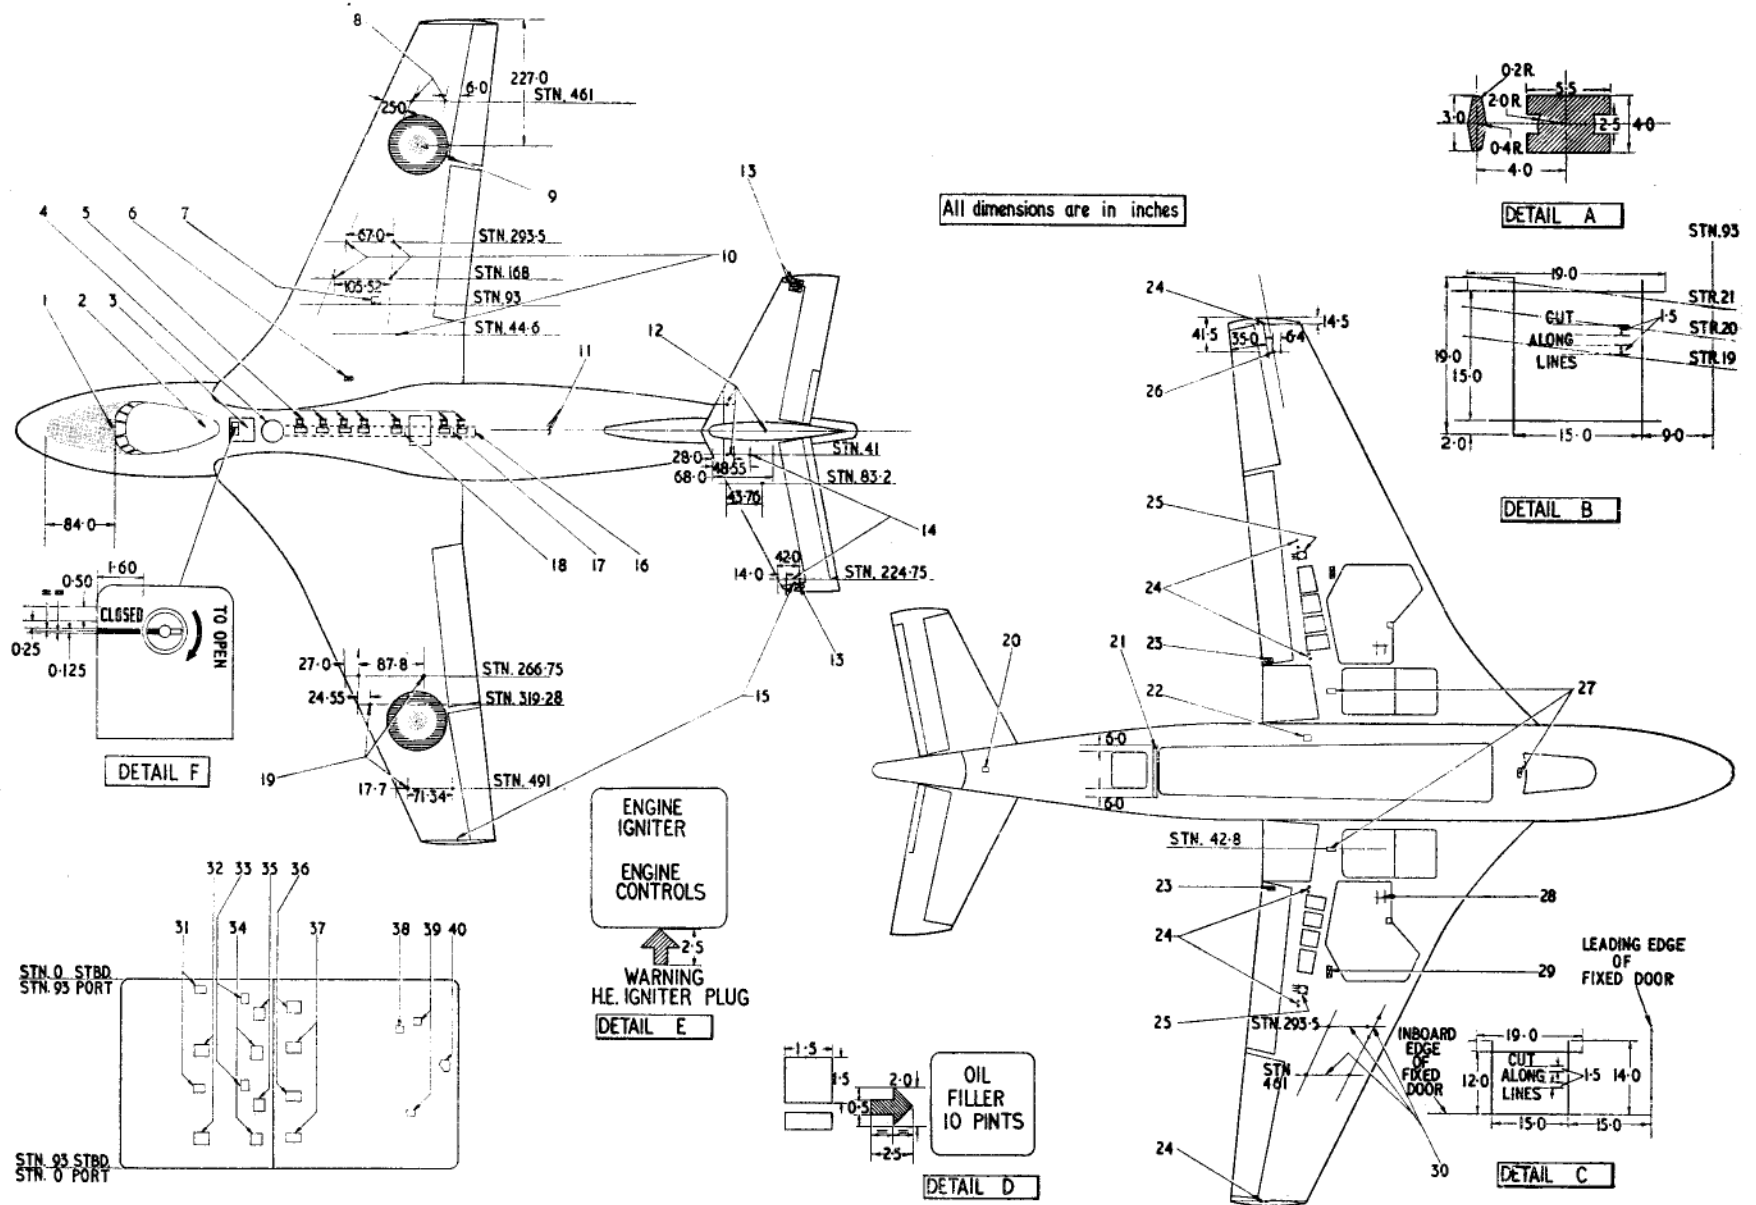
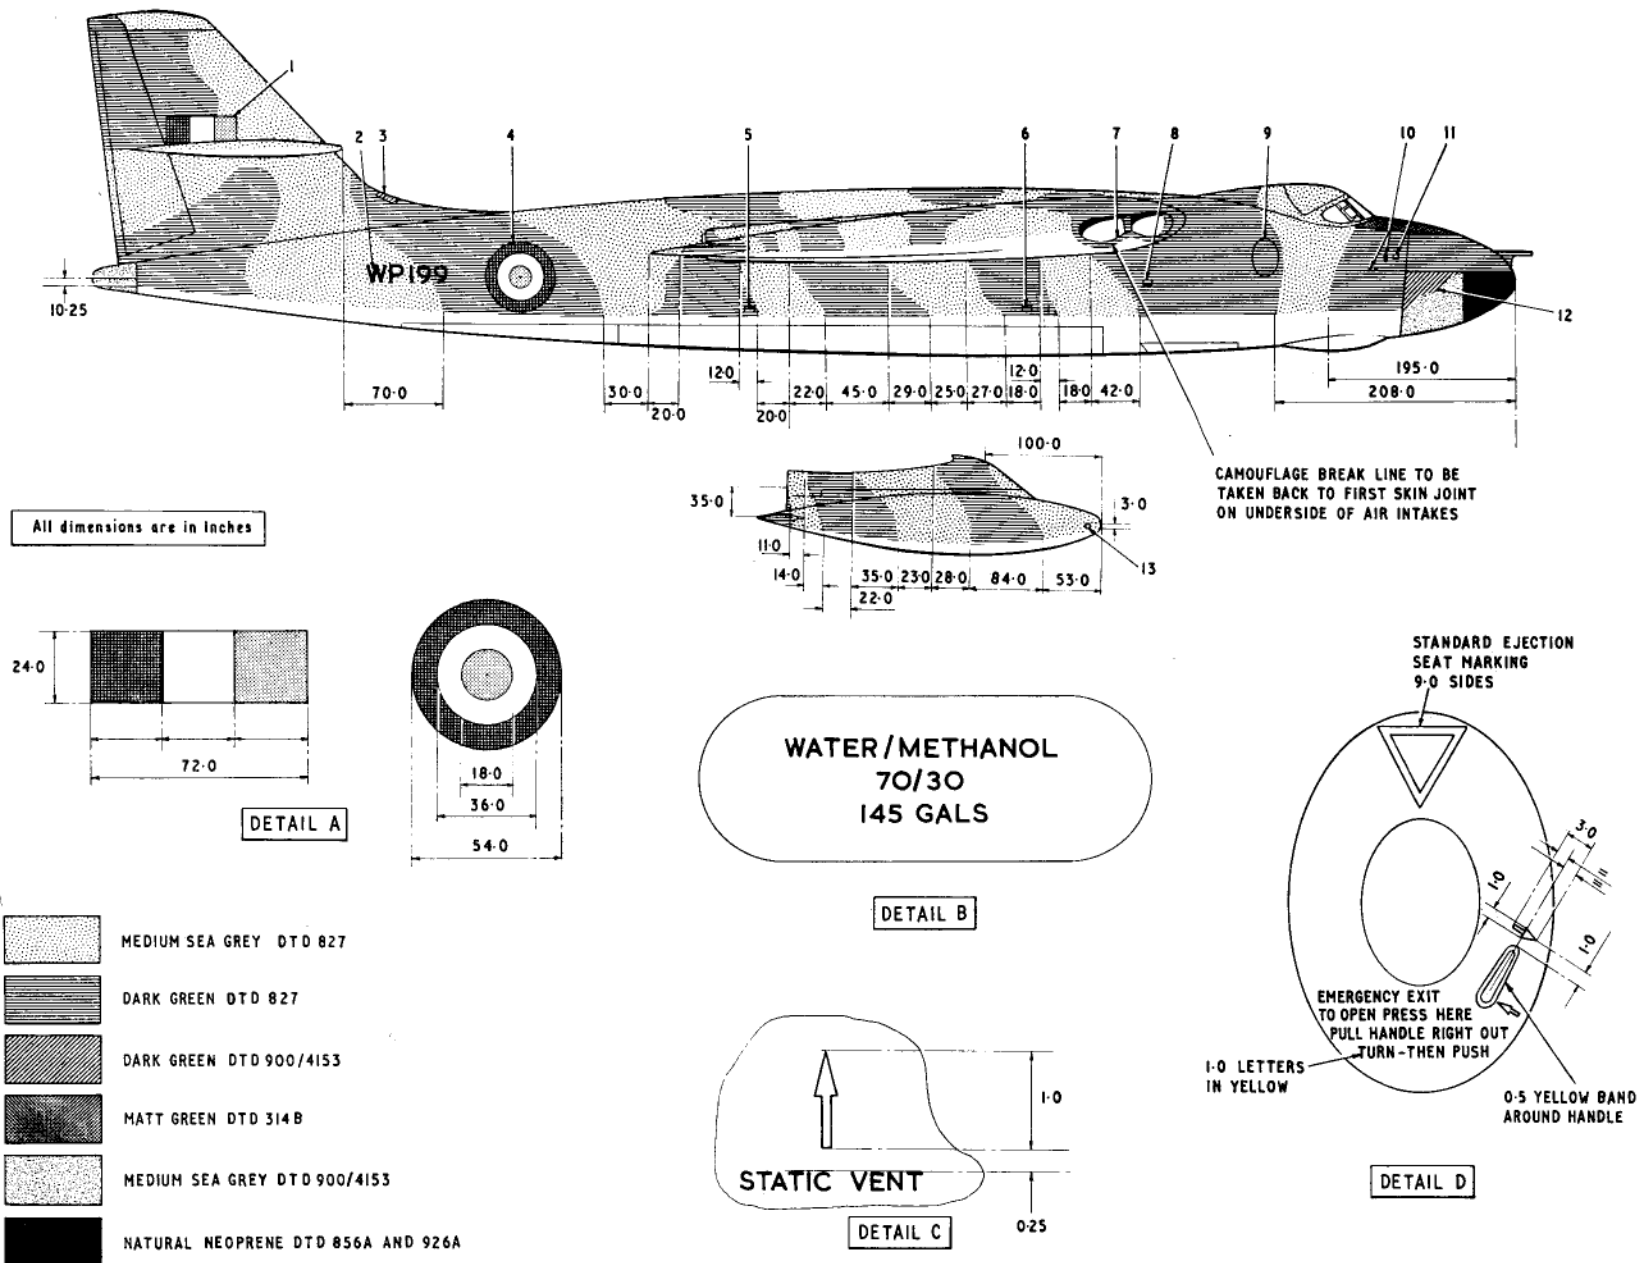

Fig. 14. External markings (1)
Fig. 18. External markings (3)—camouflaged aircraft
Key to Fig. 14 (External markings (1))
Key to Fig. 14 (External markings (1)) *contd.*
- (1) *The standard colour for external markings on camouflaged surfaces is to be yellow and the lettering is normally 0.25 in. high. Departures from these two standards are shown in the Key or on the illustration.*
- (2) *All under-surface markings are as indicated on fig. 14.*
- (3) *Standard symbols are shown in A.P.2656A, Vol. 1 (2nd Edn.), Sect. 4, Chap. 3.*
| 1 | Tail plane upper surface, port and stbd. | Rigging points marked with dots 1 in. dia. See fig. 14, item 14, for exact location |
| 13 | Main plane upper surface, port and stbd. | Rigging points marked with dots 1 in. dia. See fig. 14, item 19, for location dimensions. |
| 22 | Main plane upper surface, port and stbd. | Location for aileron checking gauge. Two dots 0.5 in. dia. See Fig. 14, item 8, for location dimensions. |
Key to Fig. 18. (External markings (3)—camouflaged aircraft)**Notes . . .**
- (2) *All under-surface markings are to be as indicated on fig. 14.*